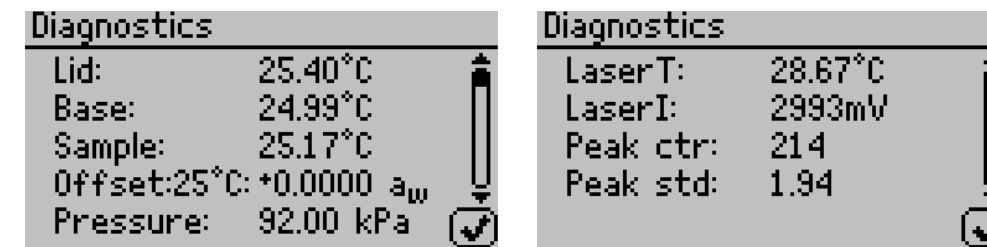

Figure 40 Diagnostics screens
- **Diagnostics.** Select to view AQUALAB TDL information (Figure 40).
Diagnostics screen provides lid, base, sample and laser temperatures, laser intensity, atmospheric pressure, and water activity offset. Figure 40 shows typical values for the sensors.